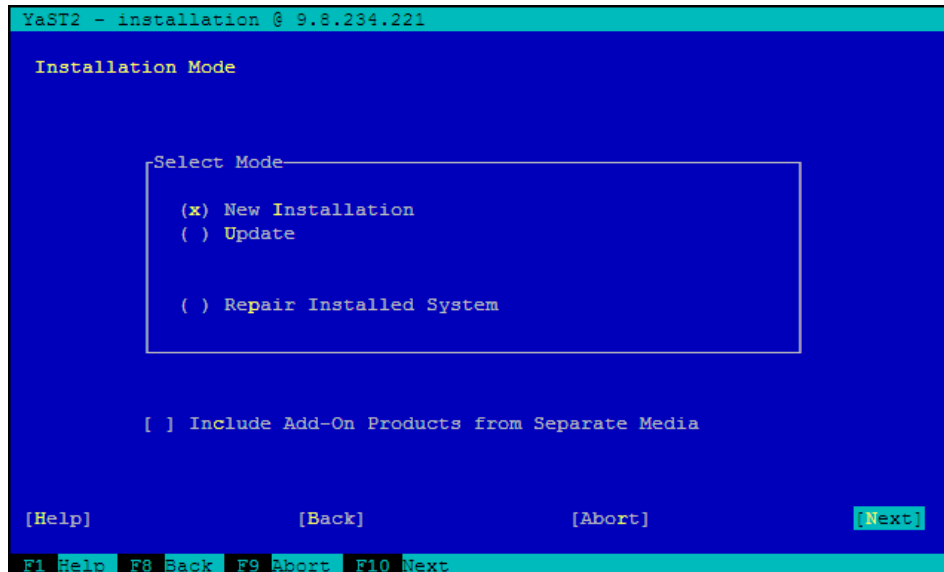

Figure 9-18 Installation Mode
- 12.Select **New Installation** for the Installation Mode, as shown in Figure 9-18 on page 381.